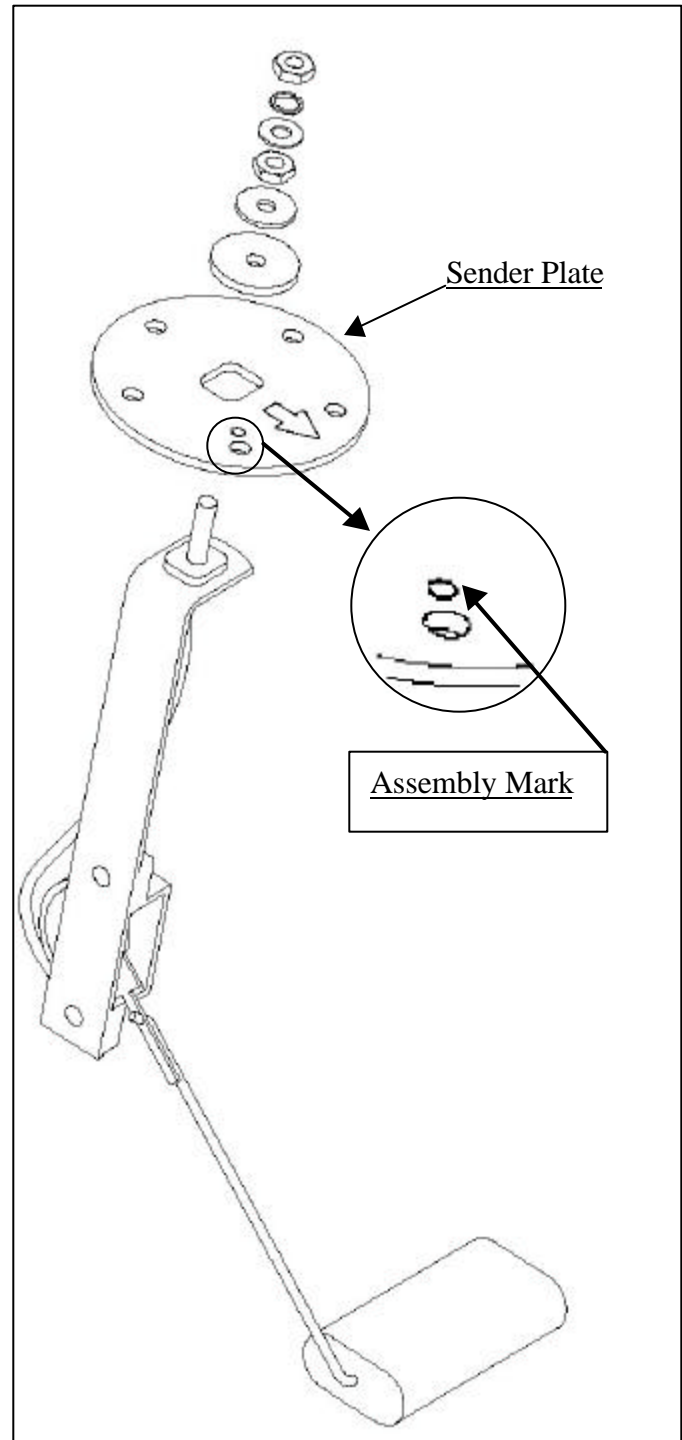

Figure 1
1. Mark the tank where the assembly mark is found on the existing Sender Plate. (see figure 1)